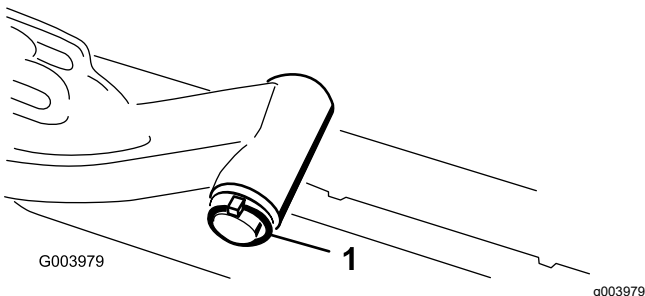

Figure 11
1. Remove the lynch pin and washer securing the lift-arm pivot shaft to the lift arm and slide the lift-arm pivot shaft out of the lift arm (Figure 11).
3. Insert the lift-arm shaft into the lift arm and secure it with the washer and lynch pin (Figure 11).